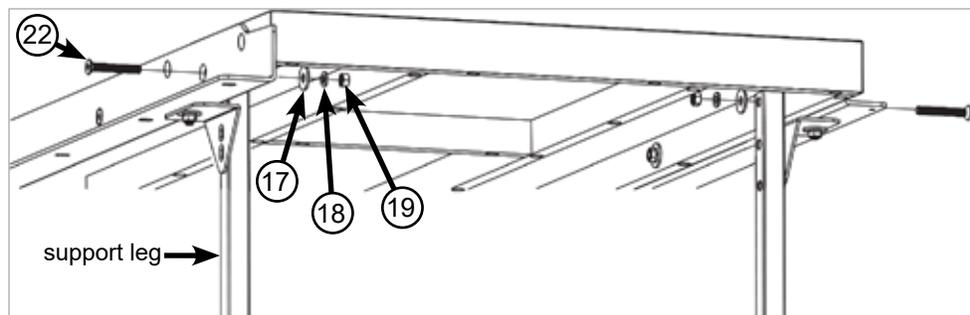

Fig. 12
- The support legs attach to the outer ends of the rails and extension table with M8 x 65 countersunk socket head bolts. Align the top hole in one support leg with the outermost hole in the front rail, and the top hole in the second support leg with the outermost hole in the back rail. Make sure the legs are positioned against the inside of the extension table. Insert an M8 x 65 bolt through the holes in the rails, extension table and legs. Place an M8 washer and an M8 lock washer on the threaded end of each bolt and then thread an M8 hex nut onto each bolt (see Fig. 12). Hand tighten the nuts; do not fully tighten them.